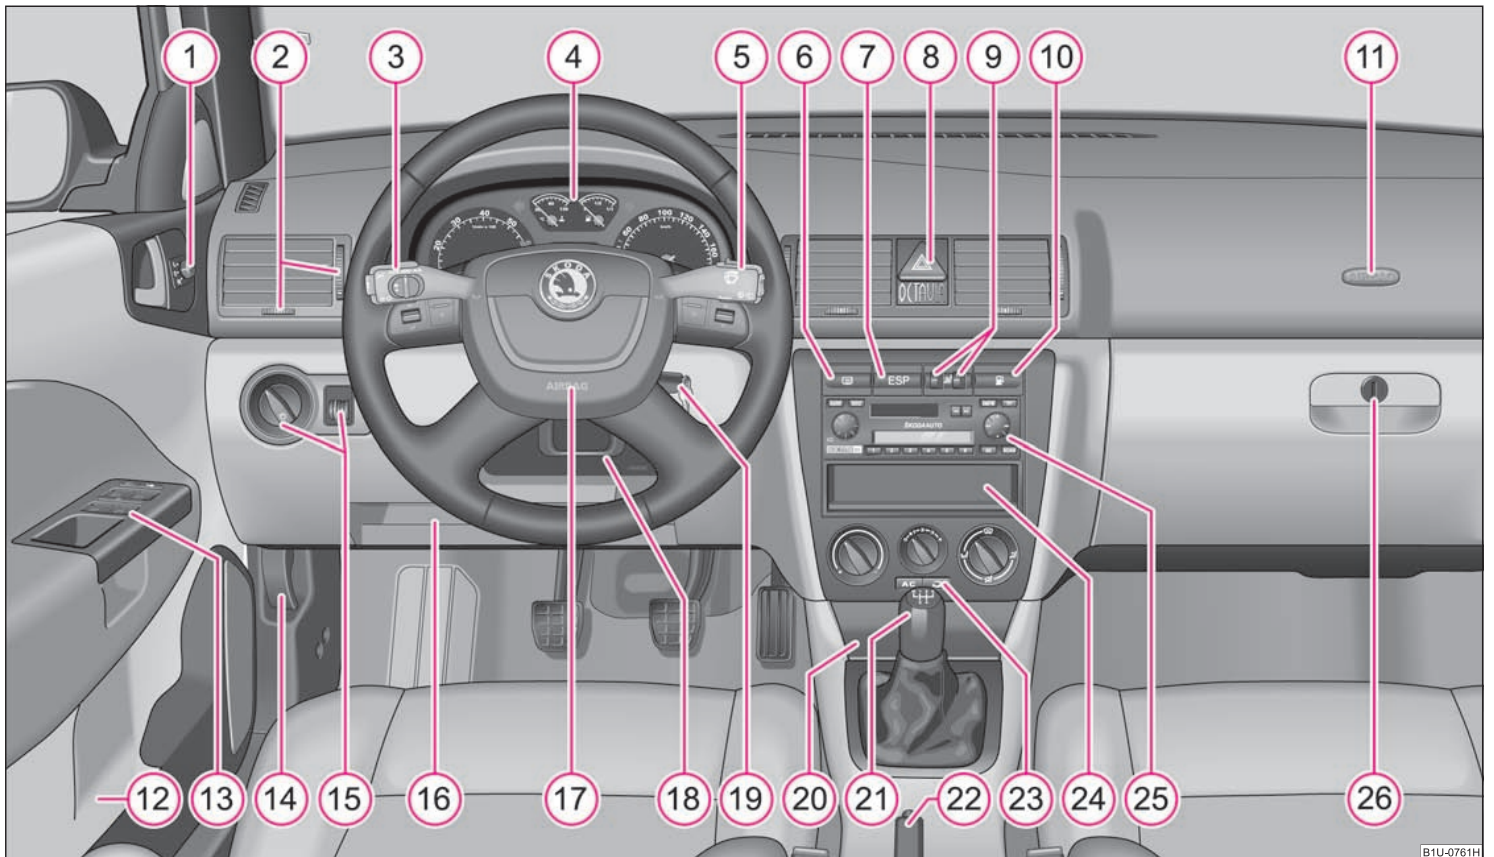

Fig. 1 Certain items of equipment shown in the illustration are only fitted to particular model versions or are optional items of equipment.
- The arrangement of the controls and switches and the location of some items on right-hand drive models may differ from that shown in ⇒ page 8, fig. 1. The symbols on the controls and switches are the same as for left-hand drive models. ■